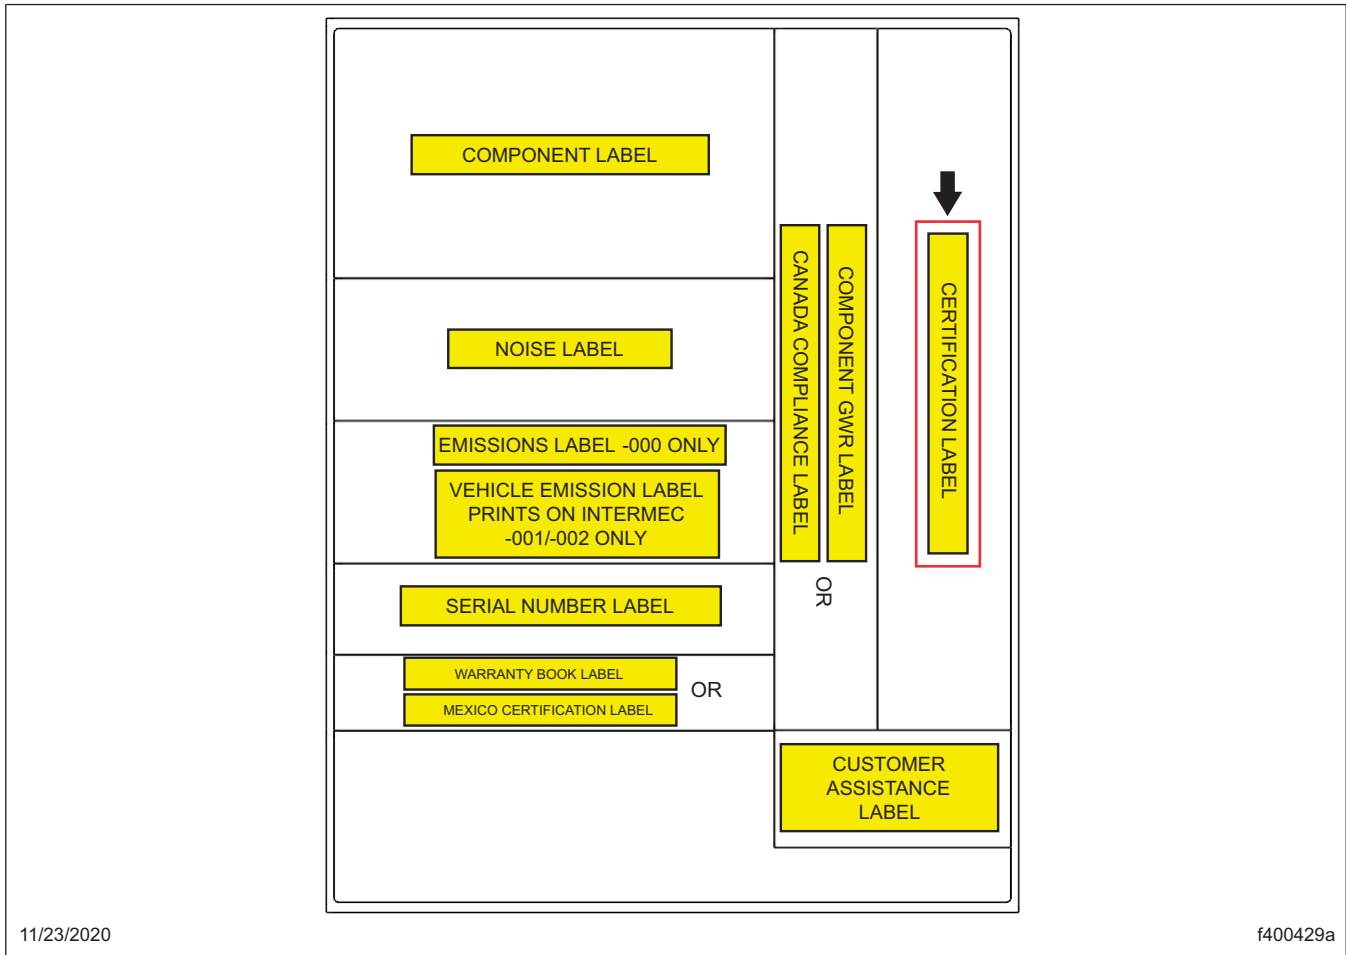

Fig. 8, FMVSS Certification Label Location, Recall Kit, Cascadia Vehicles
3. Locate the FMVSS certification label. See **Fig. 8** for the label location on the label sheet. Make sure the VIN on the current FMVSS certification label matches the VIN on the new FMVSS certification label.